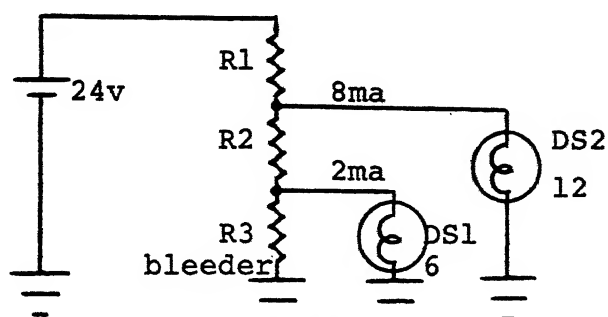

FIGURE 9
22. Figure 9 illustrates a voltage divider consisting of R1, R2, and R3. The lamps, DS1 and DS2, are the load resistances. One of the divider resistors has none of the load current flowing through it. This resistor is designated the bleeder resistor. (Figure 9).
The bleeder resistor in figure 9 consists of one resistor, a bleeder network may consist of many resistors in series performing the same function as the single bleeder resistor. Refer to figure 5-11 (sheet 1 of 2) in the MIM. The resistors R1-R16 and R17 make up the bleeder network. These resistors are mounted on the A4A5 subassembly and act as a voltage divider network which provides a lower voltage that represents the 7 KV voltage applied to the CRT. This lower voltage can be measured at TP9.